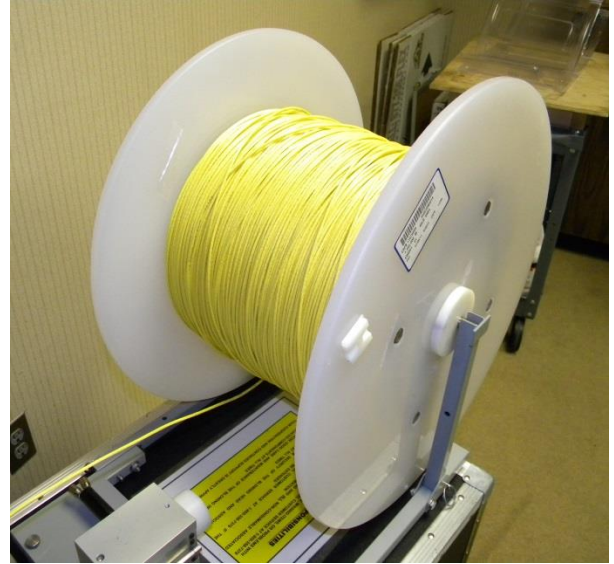

Figure 10
9.4 Guide fiber bundle onto reel and secure end of bundle to reel. You are not using the blowing head, only the arms to hold the fiber reel will hold the fiber in the tube for later use. **See Fig. 10.**